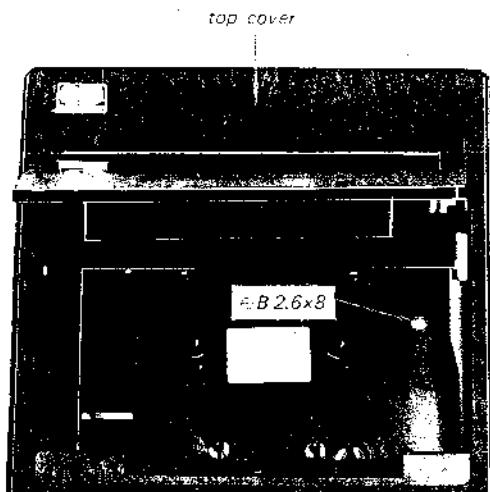

Fig. 2-5. Top cover removal
- Note:** When reconnecting them, refer to the wiring diagram located inside the wooden case as shown in Fig. 2-5.
1. Remove the screw ($\oplus B\ 2.6\times 8$) securing the top cover to the chassis as shown in Fig. 2-5.